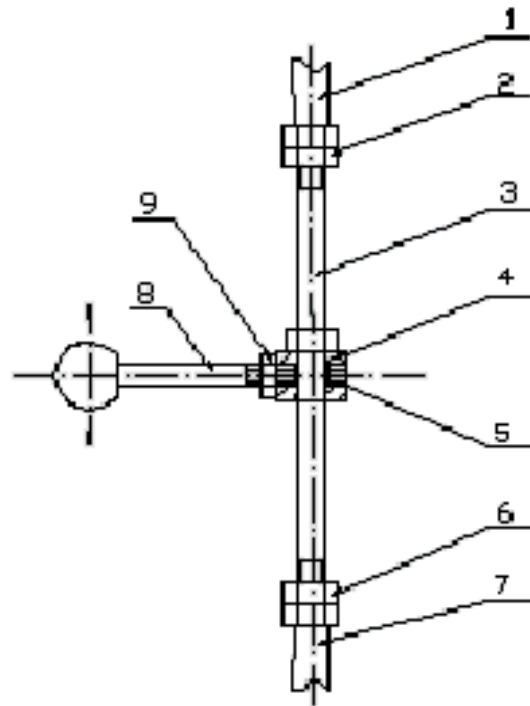

Figure 3 Clincher Adjustment Unit
The two clincher points need to be in the proper position. If the position of the clincher points is too high, the book and parts of the machine may be damaged. If the position of clincher points is too low, the wire staple will not be clinched tightly. To adjust (see Figure 3), loosen the recessed hex screw (5) in the sliding block (4). Then loosen the two locking nuts (2) and (6), and adjust the rods length by turning the stationary nut (10) counter clockwise to raise the clincher points. After making adjustments tighten locking nuts (2) and (6), and locate sliding block (4), locking it with hex screw (5).